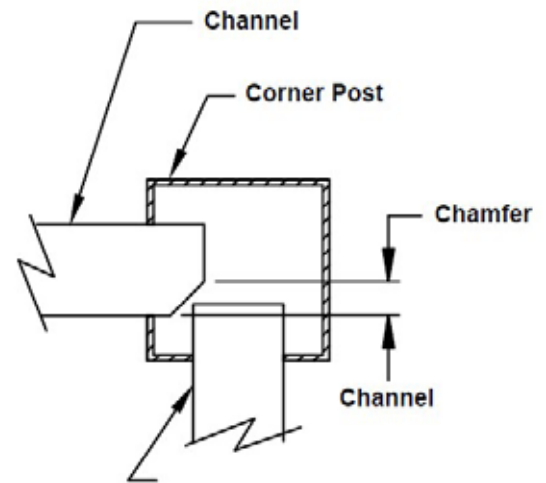

Fig. 5 Top View
7. When inserting panels into a corner post, the channels on one panel need to be cut at an angle so that both panels fit all the way into the post - Figure 5